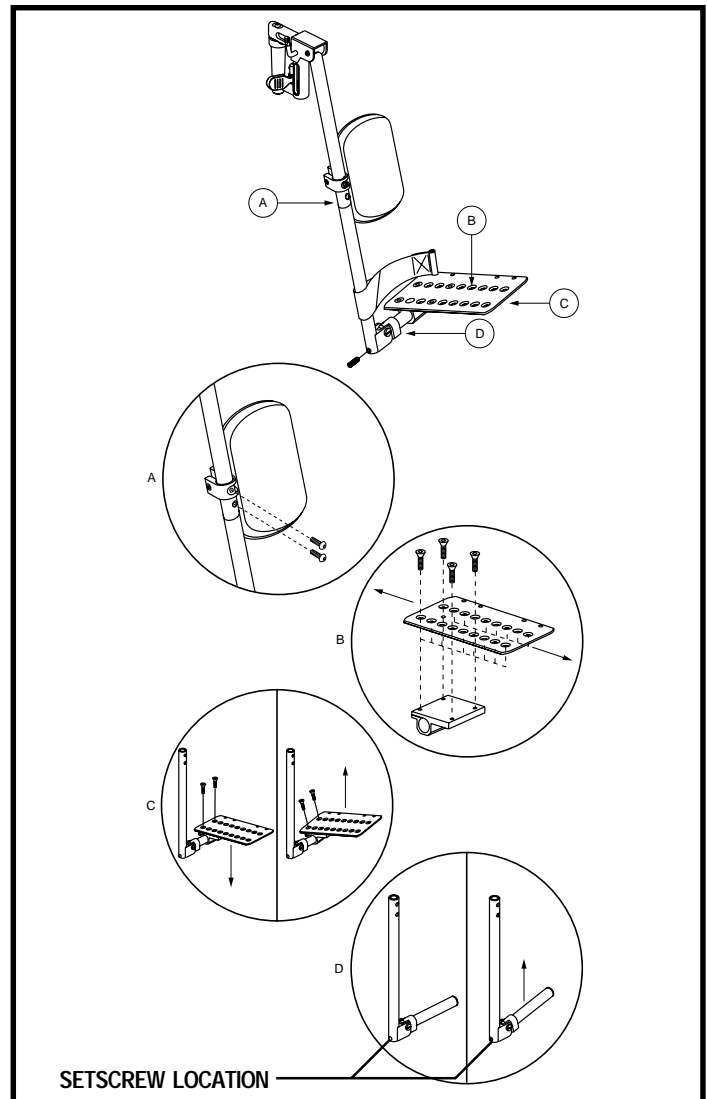

Figure 23. Multi-Axis Foot Plate (ELR Shown)
The multi-axis foot plate assembly can be installed on either a swing-away footrest or an elevating leg rest. The multi-axis foot plate has four adjustments: leg rest length (A), position (B), tilt (C), and angle (D). See figure 23.